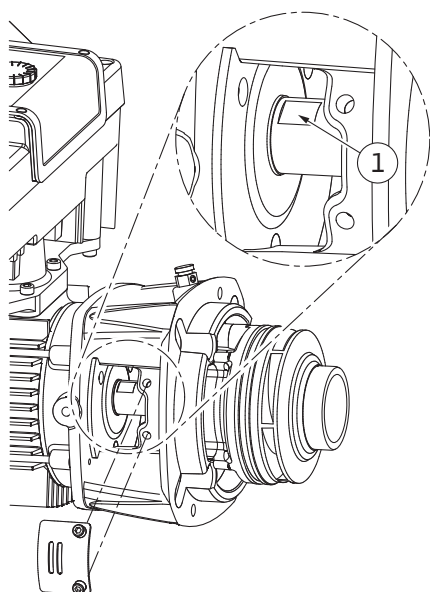

Fig. 100: Wrench flats on the shaft
14. Insert an open-end wrench (22 mm width across flats) into the lantern window and hold the shaft by the wrench flats (Fig. 100, Item 1). Unbolt the impeller nut (Fig. I, Item 22). The impeller (Fig. I, Item 21) is automatically pulled off the shaft.
3. Insert an open-end wrench (22 mm width across flats) into the lantern window and hold the shaft by the wrench flats (Fig. 100, Item 1).